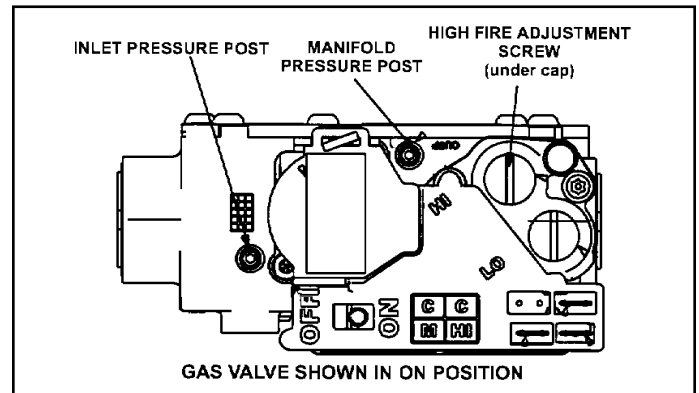

Figure 61. Gas Valve Shown In "ON" Position
6. Move gas valve switch to OFF. See Figure 61.
8. Move gas valve switch to ON. See Figure 61.
1. A manifold post located on the gas valve provides access to the manifold pressure. See Figure 61. Back out the 3/32 Hex screw one turn, connect a piece of 5/16" tubing and connect to a manometer to measure manifold pressure.